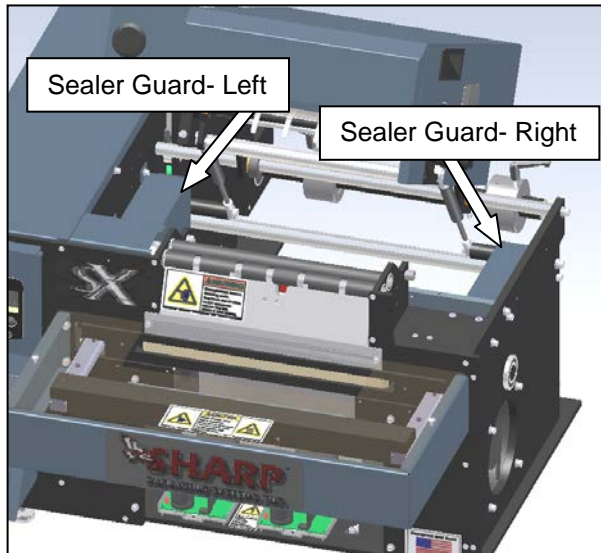

Figure 3-303. Left and Right Sealer Guards
- Remove the left and right sealer guide guards identified in Figure 3-303.